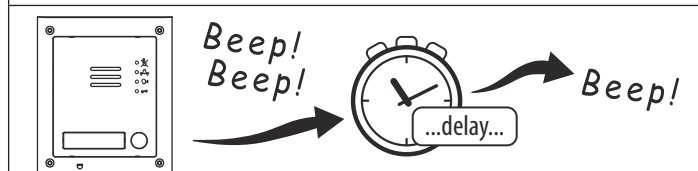

Fig. 57
3. Power up the GSM module, 2 beeps will be heard followed by a brief delay and then a 3rd beep, as shown in **Fig.57**.